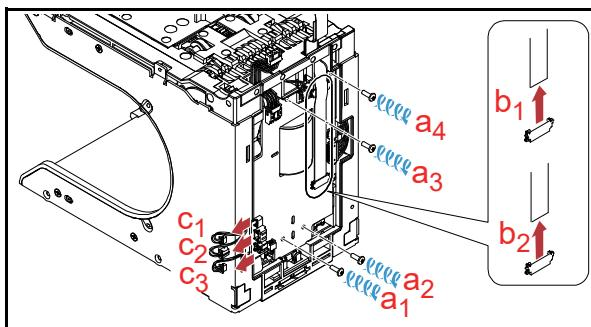

**Figure 4-48** Back Transport Gear 1 Removal
1. Remove the two (2) Pulley Pins (Figure 4-48 a1 & a2).
2. Remove the two (2) Back Transport Gears 1 (Figure 4-48 b1 & b2).